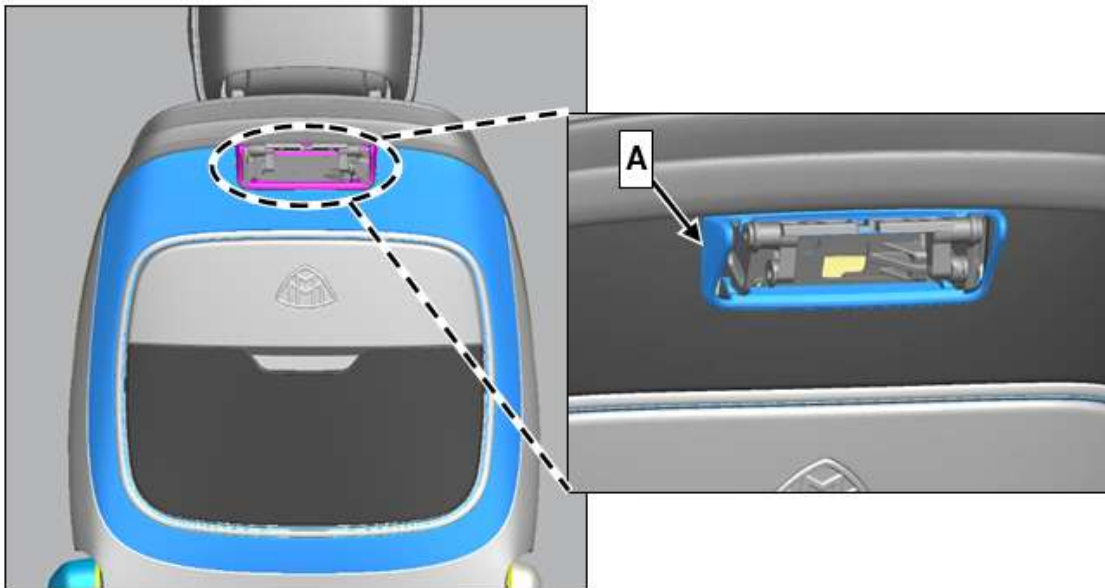

Figure 24
14. Install/clip in cover (A, figure 24).